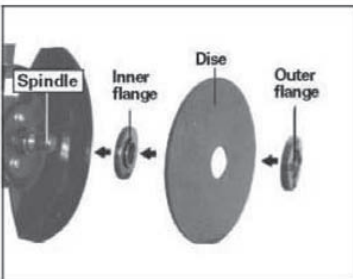

Fig 3
3. FITTING THE DISCS (see fig 3)
Place the grinding/cutting disc on top of the inner flange and over the spindle. Ensure that it is firmly located on the raised section of the inner flange. See fig3. Locate the outer flange over the disc, making sure that the raised side is facing the disc and is fully located in the centre hole of the disc.